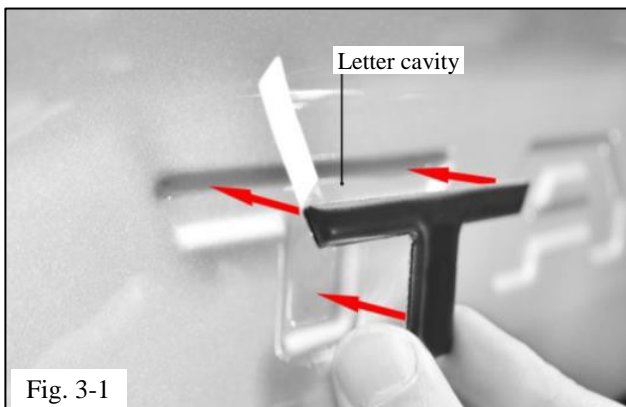

Fig. 3-1
- (a) Center the letter “T” inside of the corresponding cavity in the rear tailgate to confirm fit (Fig. 3-1).